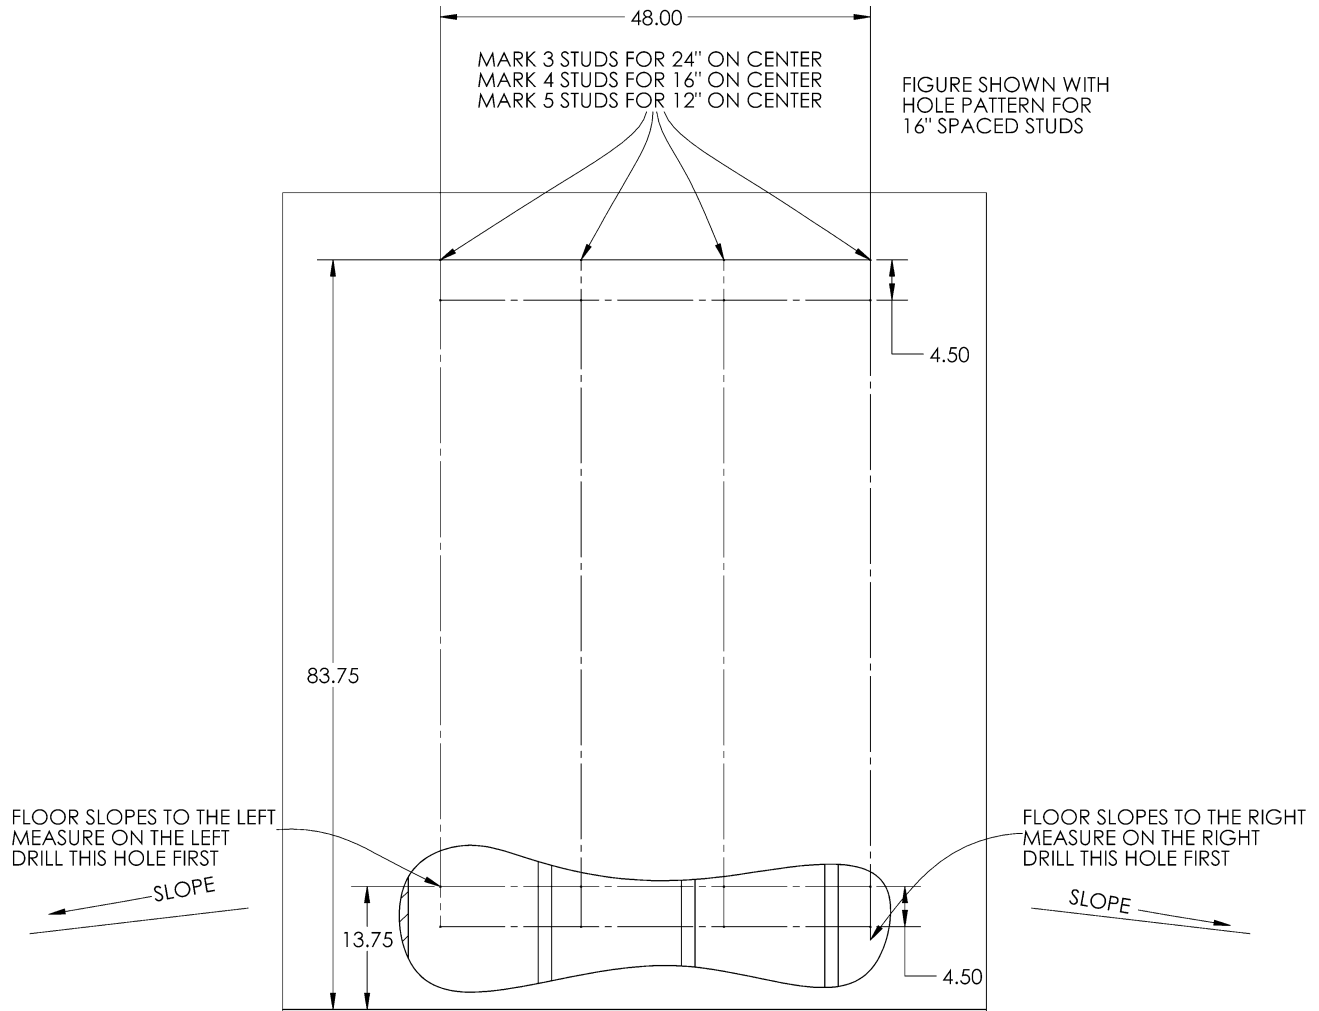

Figure 1. Stud and hole locations
1. Begin by determining if your floor slopes down to the left, down to the right, or is flat (**Figure 1**).
2. Locate two studs spaced 48" apart, and all studs in between, using a stud finder (**Figure 1**).
3. Based on step 1, mark the first stud at 13-3/4" and the height depending on your upright height from the floor (**Figure 1**).